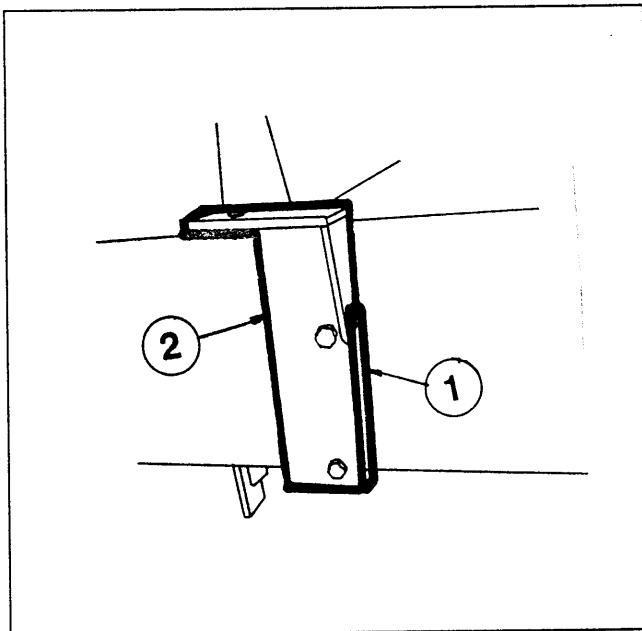

Figure 1
2. Take one of the rear bracket spacers (1) and position it against the two-hole bolt pattern in the right frame rail, below the engine fire wall. Take the right rear bracket (2) and position it against the spacer, with the ROPS mounting plate towards the rear and outside. Loosely bolt the bracket, through the spacer, to the rail using the $\frac{1}{2}$ "x2" hex bolts, hex nuts, lockwashers, and flatwashers supplied. ENSURE the flat washer is against the inside of the rail (see Figure 1).